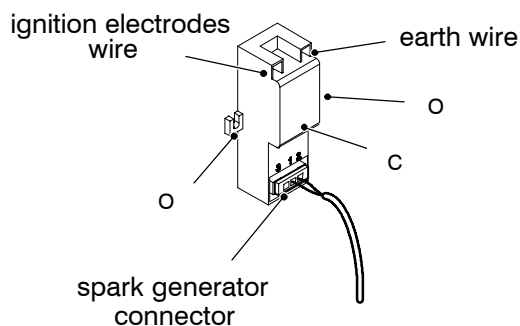

Fig. 18.8
- 2 Disconnect the spark generator connector coming from the control p.c.b, the electrodes wire and the earth wire coming from the ignition electrodes (Fig. 18.8).